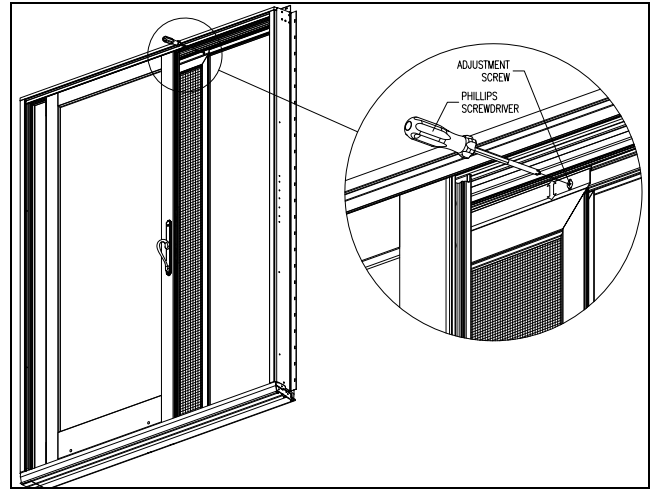

Figure 3
1. Adjustment is possible from the interior by loosening or tightening the top roller screw nearest the locking jamb. Adjust the screen so that it is parallel to the locking jamb or casing to achieve an even reveal along the entire height of the jamb. See Figure 3.